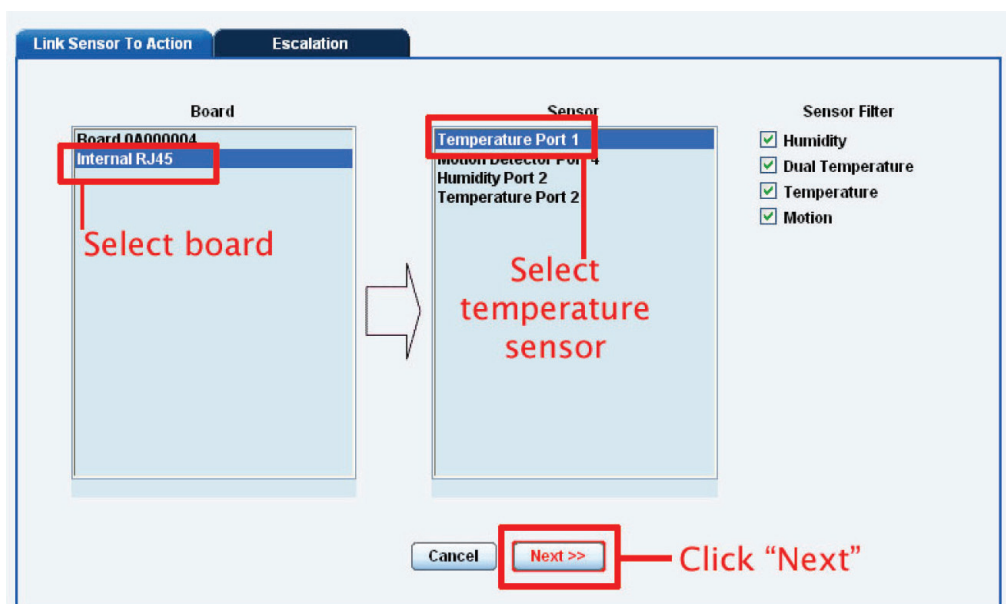

Figure 4-8. Select the sensor.
5. Select the sensor and SNMP trap parameters (see Figures 4-8 and 4-9). First, click on the board that the sensor is attached to and then select the sensor and click “Next.”